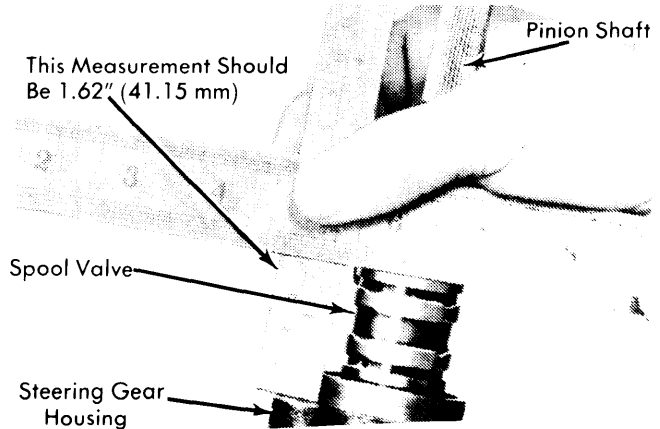

Fig. 9 Pinion Shaft Adjustment Procedure
5) Screw lower bearing seat onto pinion shaft. Adjust bearing so that when pinion shaft float is removed, there is 1.62" (41.15 mm) between gear housing flange and top of spool valve (see Fig. 9). Install shim and pinion shaft end cover to gear housing, torque bolts to 9-12 ft. lbs. (1.2-1.7 mkg). Recheck gear housing flange to top of spool valve. If measure-